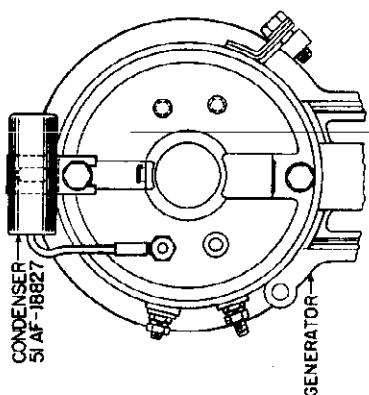

Figure 1
1. Loosen (do not remove) the top assembly bolt on the rear end plate of the Generator. Slide the bracket of Condenser 51AF-18827 under the bolt and tighten (see figure 1). Connect the lug end of the Condenser lead to the Armature terminal of the Generator.